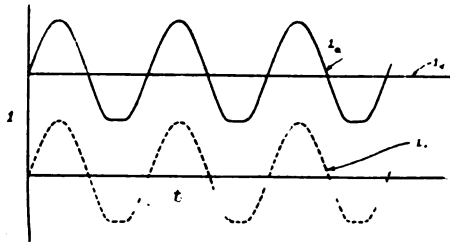

Fig. 24
Type (1).—Those for which the amplitude of the (approximately) sinusoidal alternating current produced is less than that of the direct current. If we call the direct current  $i_d$ , and the current through the arc  $i_a$ , Fig. 24 shows the current curves plotted against time. It will be seen that  $i_a$ , the arc current, is the sum of the direct current supplied to the arc and the alternating (nearly sinusoidal) current flowing in the shunt circuit  $L_1 C_1$ . The arc current never reaches the value zero, as is also clear from the figure, because the amplitude of the alternating